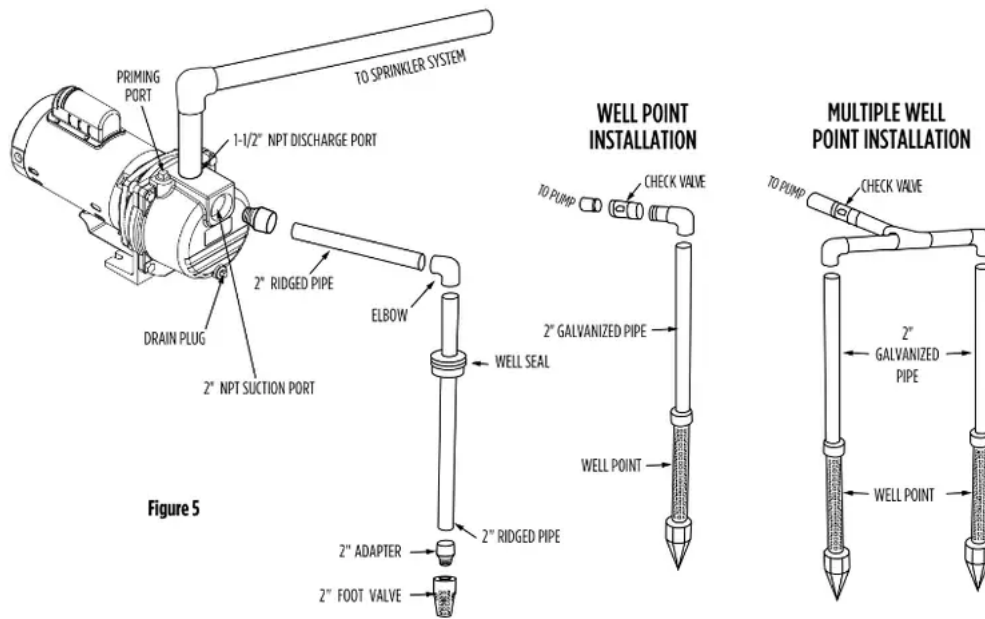

Figure 5
A. Suction Port Connection (Figure 5)
5. Start the pump. A properly primed pump should discharge water without air at a consistent pressure. If the pump does not produce water after five minutes, stop the pump, release all pressure, remove priming port plug, add more water, replace plug, and try again. Ensure that a foot valve is properly installed on the suction pipe (Figure 5). If an exceptionally long suction line is used, the water in the pump casing may become overheated or vapourlocked. Should this occur, replace the water in the casing with cold water and continue priming.